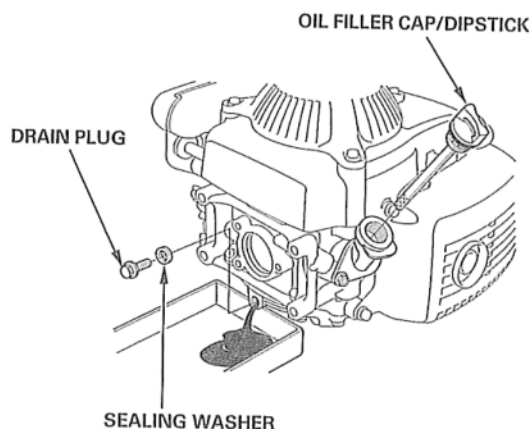

Figure 19
5. Remove the dipstick and drain the oil into a pan by removing the drain plug. (Fig 19)